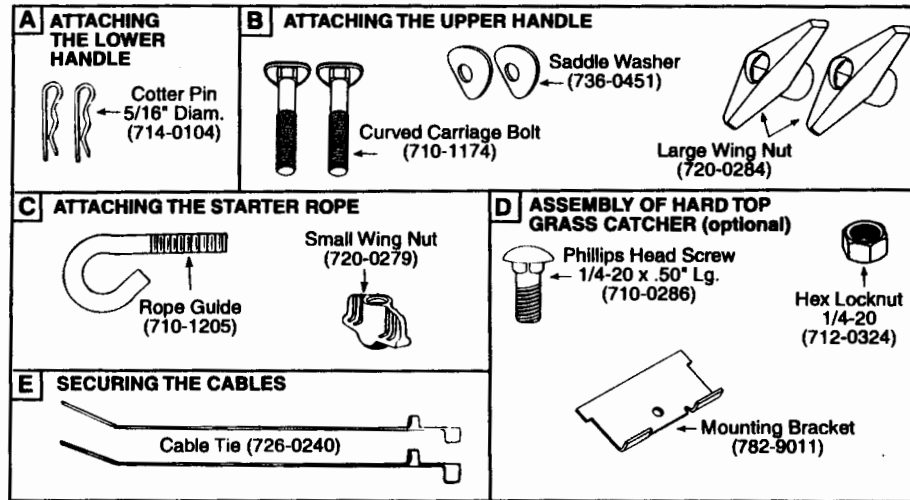

Figure 1
2. Refer to Figure 1 for hardware identification.
1. There is an off-set hole in the lower handle to provide you with two handle height adjustments. Handles mounted with the notch (see inset, figure 1) forward or upward will be lower than handles mounted with the notch towards the rear of the unit.